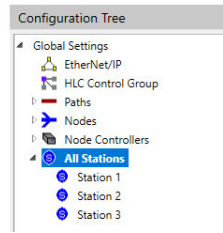

Figure 4-124: All Stations List
*The list of all stations is expanded and displayed below **All Stations** in the Configuration Tree, see Figure 4-124.*